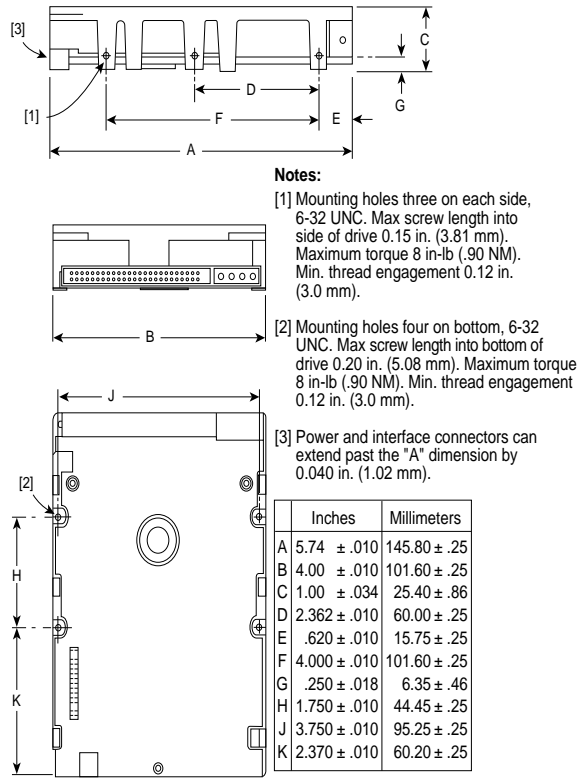

Figure 4. Hawk 1LP family N/ND model mounting dimensions (50 pin SCSI I/O connector)
- Mount to host system chassis using four 6-32 UNC screws. Three mounting holes are in each side and four in the bottom of the drive. See Figure 4. The maximum length that the screws should extend into the side chassis mounting holes is 0.15 inch (3.81 mm), and 0.20 inch (5.1 mm) into bottom holes, measured from the outer surface of the chassis. The minimum thread engagement for all mounting screws is .12 inch (3.0 mm). Tighten the screws evenly to a maximum torque of 8 in-lb (.90 NM). Do not over tighten or force when screw does not seem to screw in easily (threads not correctly engaged).